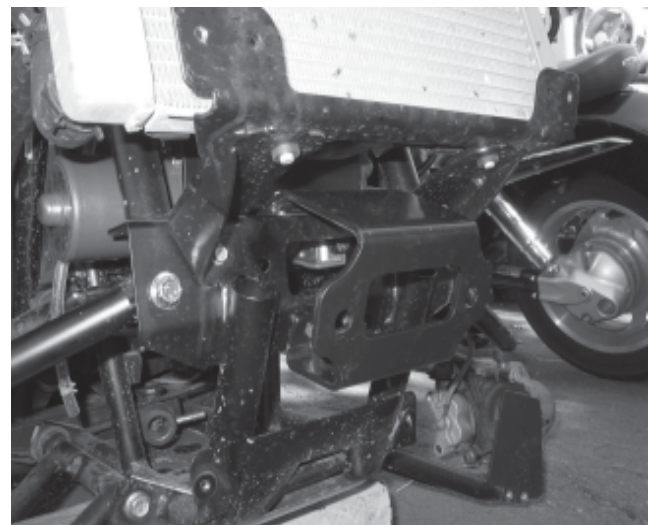

Figure 6
7. Tighten all of the fasteners at this point in the installation use the recomended torque specs, see figure 6 shows the brackets in the correct location before the front bumper is placed back into position.